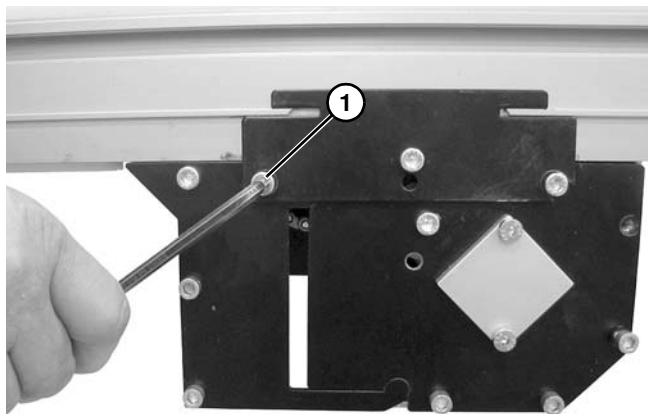

Figure 52
1. Loosen screw (**Figure 52, item 1**) on each side of conveyor.